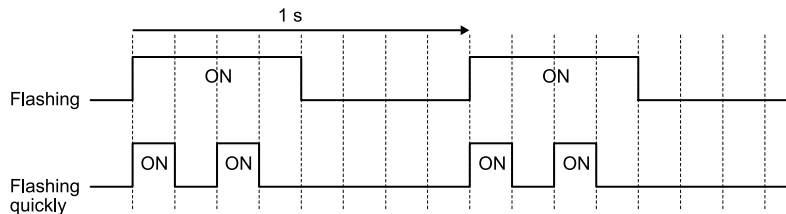

Figure 4.6 LED Flashing Statuses
*1 Refer to Figure 4.6 for the difference between “flashing” and “flashing quickly”.